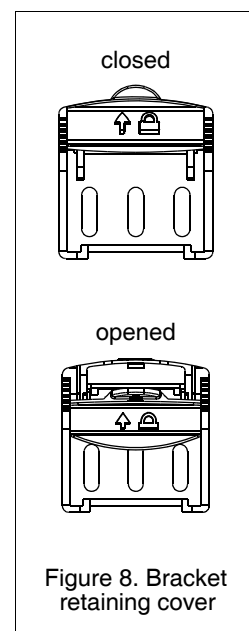

Figure 8. Bracket retaining cover
1. If the retaining cover is closed, open it by depressing the latch and rotating the cover downward (see Figure 8).